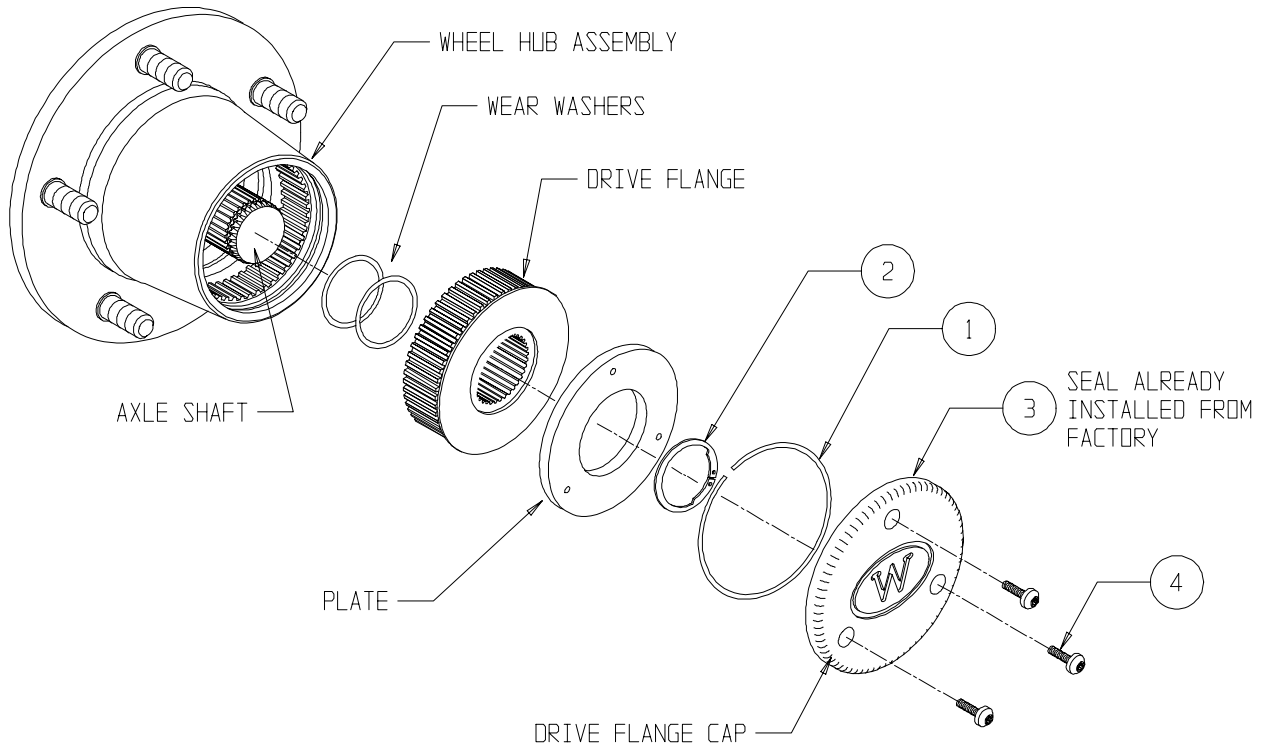

Figure 2. Drive Flange Installation
3. Using snap ring pliers, install axle retaining ring. (Figure 2, Flag 2)
4. Install large lock ring in groove in wheel hub. (Figure 2, Flag 1)
5. Apply light coating of lubricant to Drive Flange Seal, (i.e. oil, grease, Anti-Seize). (Figure 2, Flag 3)
- 8. Install the three #8 TORX head screws. Torque to 25-30 **INCH-lb.** (Figure 2, Flag 4)